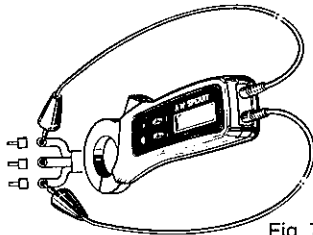

Fig. 7
- (3) Connect the test lead tips to the circuit under test (Fig. 7). The voltage measured will be indicated on the display.